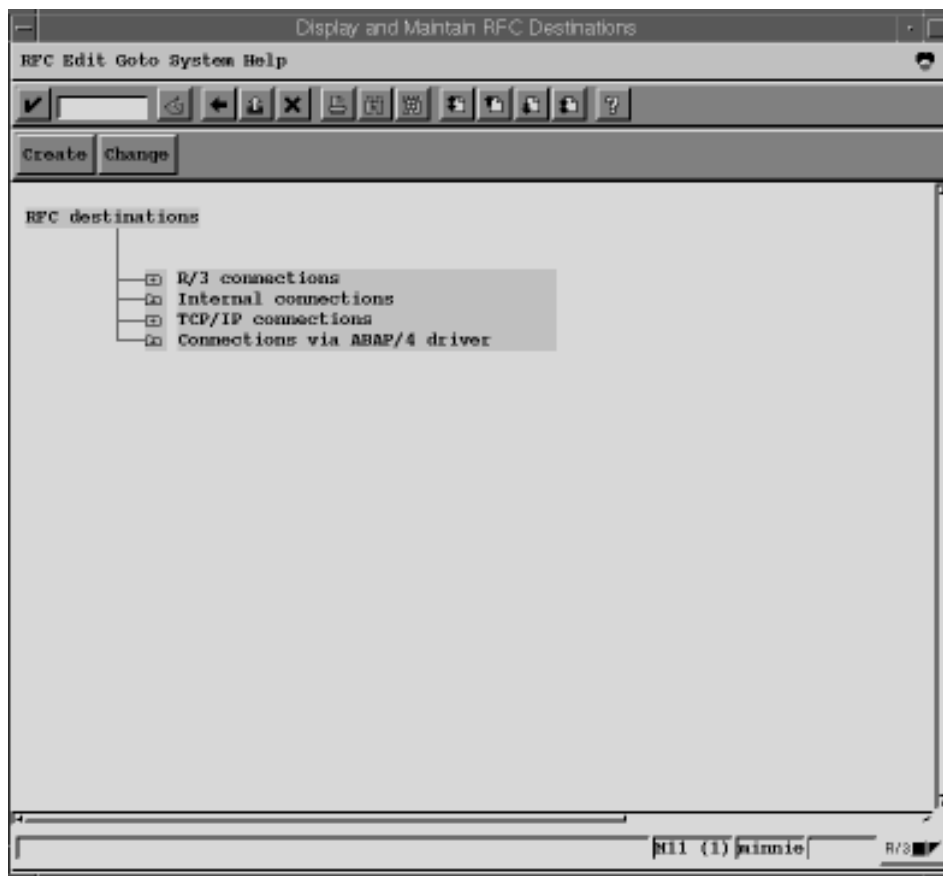

Figure 8. The SAP panel accessed through the sm59 R/3 transaction
1. In any R/3 panel, specify administration function sm59, by typing `/nsm59` in the command field. This changes the panel to that shown in Figure 8.